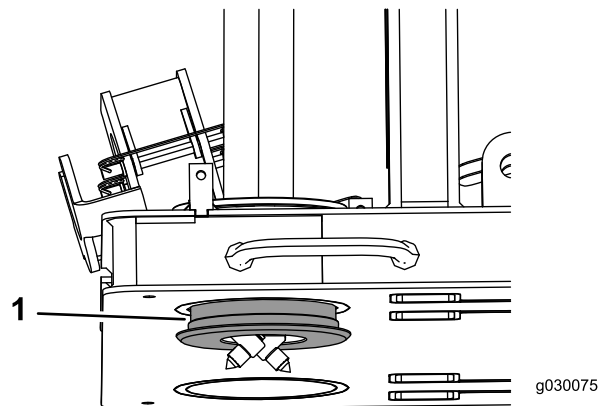

Figure 8
3. Insert the stake guide from under the platform (Figure 8) and tighten the bolts.